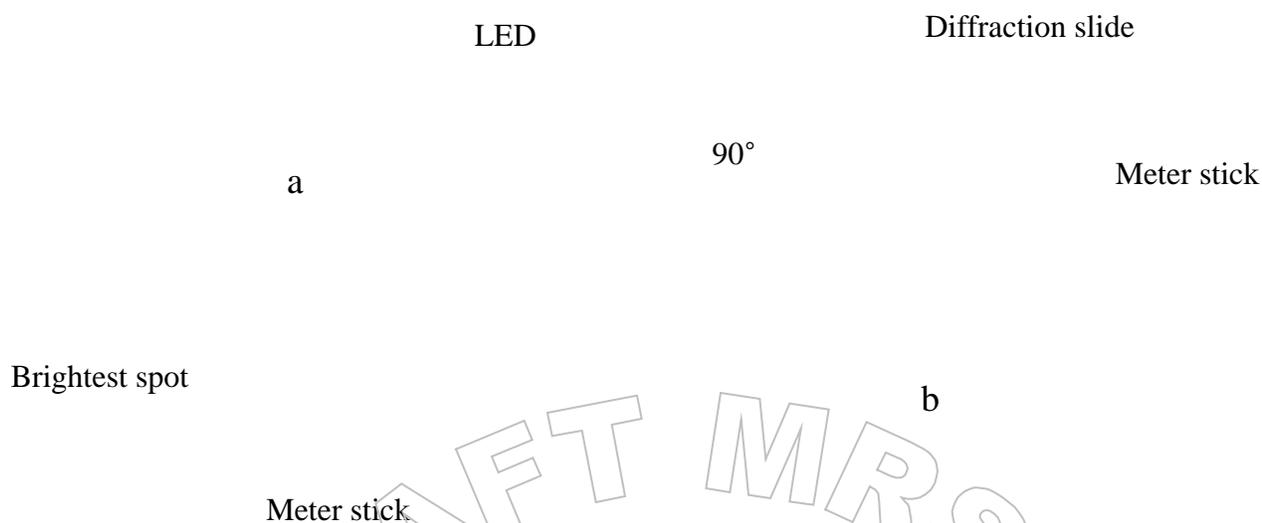

Figure 1.
1. Set up the apparatus as shown in Figure 1 below.